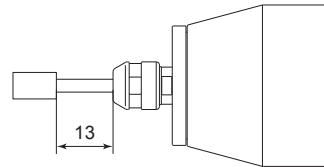

Fig. 24
- ① The proper surface speed for general grindstones is 10 - 30m / s.
- ② Do not exceed 13mm of overhang for mounted grindstones as shown in Fig. 24. If the overhang must exceed 13mm, reduce the Brushless Motor Spindle speed in accordance with Table. 3.
- ③ Dress the grindstone prior to use.
- ④ Do not use cutting tools with bent or broken shanks, cracks or excessive run-out.
- ⑤ For grinding, the maximum depth of cut should not exceed 0.01mm radially or axially. Reciprocate the tool several times after each pass to eliminate tool pressure.
- ⑥ Always operate cutting tools within the allowable recommended speed of the cutting tools. Use of a cutting tool outside of the allowable speed of the cutting tools could cause damage to the spindle and injury to the operator.
- ⑦ Keep the cutting tool shank and collet clean. If contaminants are left in the collet or collet nut, excessive run-out will cause damage to the cutting tool and or spindle.
- ⑧ Do not strike or disassemble the Brushless Motor Spindle.
- ⑨ Please set the cutting tools to minimize the overhang amount. 13mm is the maximum amount of overhang to maintain high accuracy and safety.